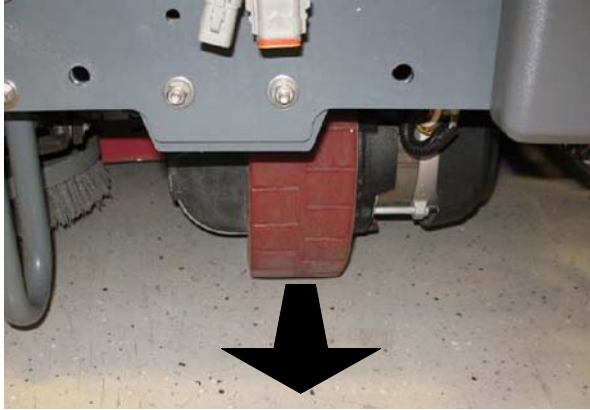

FIG. 12
13. Straighten the front wheel so it is pointing forward. (Fig. 12)